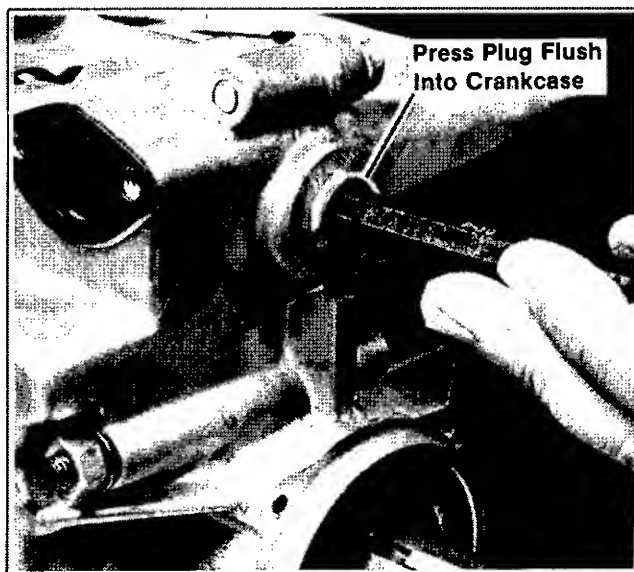

Figure 8-20. Installing Camshaft Bore Cup Plug
2. Drive plug into camshaft bore (flywheel end) until it is flush with surface of crankcase. See Figure 8-20.